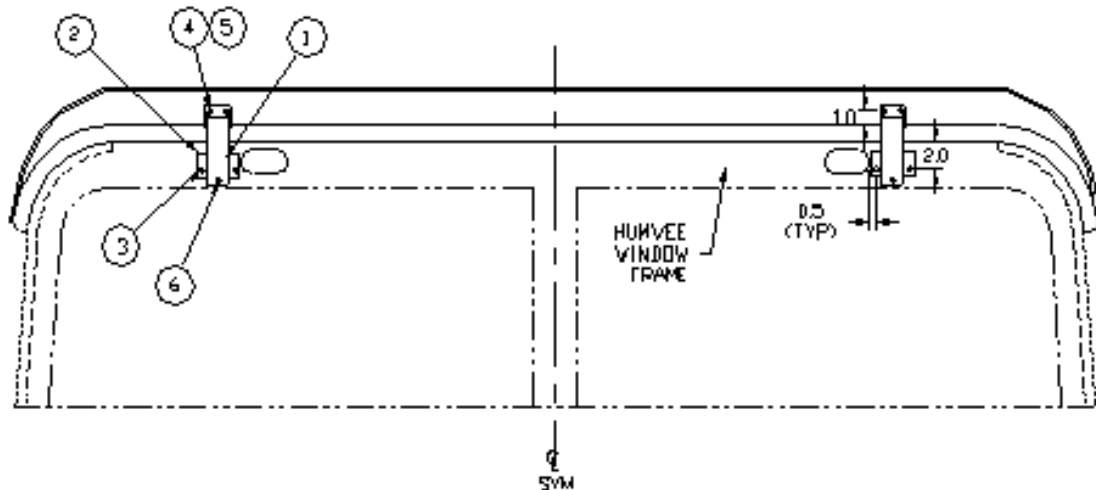

FIG. 1-3
10. Position the strikes on the windshield frame and mark the holes. Drill the holes in the windshield frame with a 1/4" drill bit. Install the strikes with (4 ea.) rivets. See figure 1-3.
11. Install the latches into the strikes and close the latch. Adjust length of the latches so that the center of the latch mounting holes is above the bottom of the rib by 1". Mark the holes for the latches on the reinforcement rib. Remove the latches from the strikes. Drill the holes with a 3/16" drill bit a maximum of 1-1/4" deep. **NOTE: DRILLING DEEPER THAN 1-1/4" WILL DAMAGE THE TOP.** Install the latches with (4 ea.) 1/4" x 1-1/4" pan head wood screws and (4 ea.) 1/4" washers. Adjust the latches so that the top is pulled tightly to the windshield frame and secure the latches. The latch handles have a small hole near the bottom. Drill through these holes into the windshield frame with a 1/8" drill bit. Secure the handles to the windshield frame with (2 ea.) #10 washer head screws. See figure 1-3.